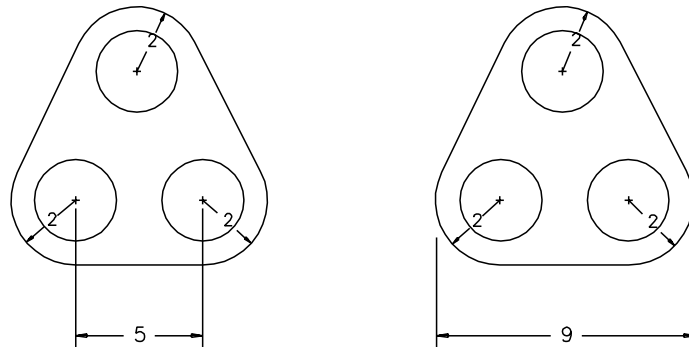

Fig. 5-2 POLY-ARCS (BEFORE RECTIFICATION)
3. Add three circles to each triangle, as illustrated in Figure 5-2.